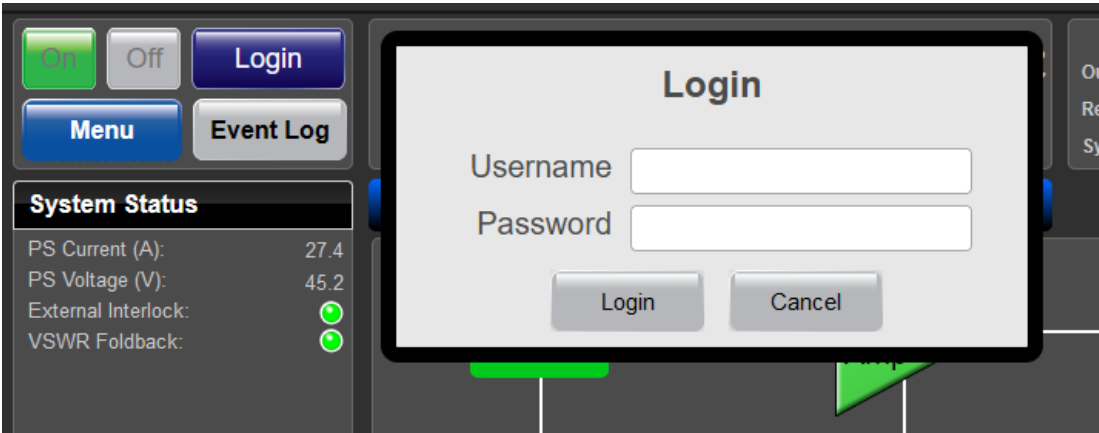

Figure 4-7 Login Window
*Click* the **Login** button in the upper left corner of the Home screen. This will open the Login window, Figure 4-7.